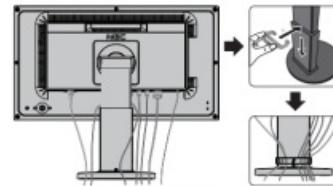

Figure C.2
6. Place the cable holder onto the stand (Figure C.2).